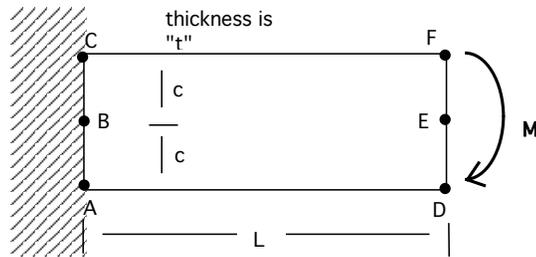

Figure 1
1.1) The cantilever beam shown in Figure 1 is tip-loaded by a moment M.